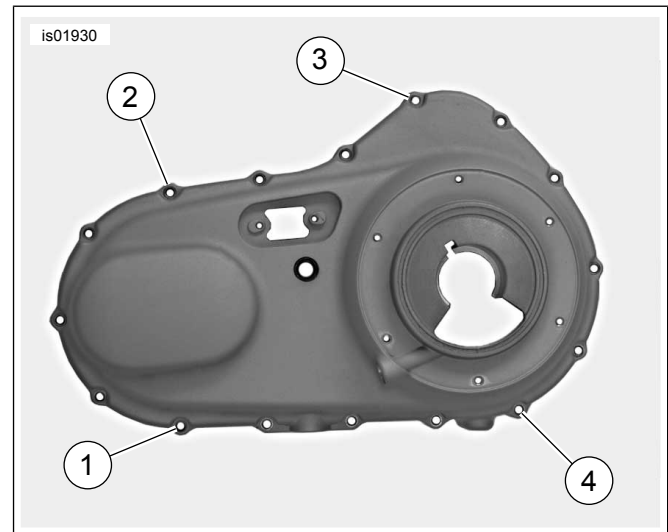
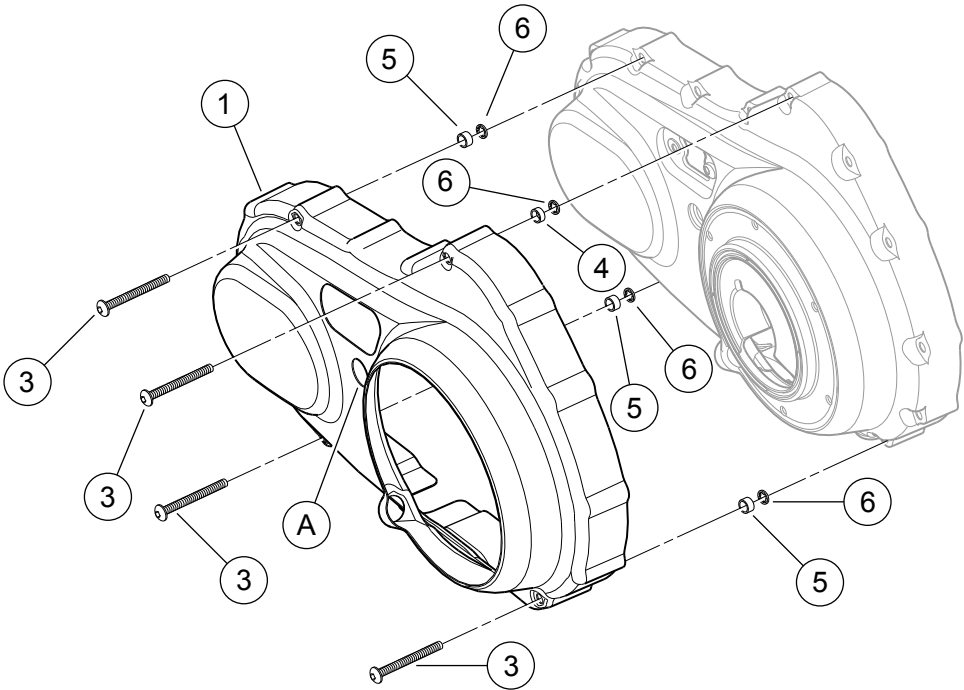

Figure 2. Primary Cover Mounting Screw Locations
Figure 3. Service Parts: Chrome Primary Trim Cover
See Figure 3 and Table 1.
4. See Figure 2 and Figure 3. Remove and discard the primary cover hex-socket head screws from the four locations shown.
9. See Figure 2. Insert a chrome screw (3), from the outside, through the hole in location 3 on the chrome trim cover. Place the **thinner** steel spacer (4) onto the threads of the screw from the inside of the trim cover.
10. Use a 5/32 inch hex key on the screw head, and grip one of the Nylon keeper washers (6) with a pliers. Install the washer onto the screw until several threads extend from the washer, capturing the screw and spacer on the trim cover.
11. Insert the remaining chrome screws, from the outside, through the holes in locations 1, 2 and 4 on the chrome trim cover. Place a **thicker** steel spacer (5) onto the threads of each screw from the inside of the trim cover.
13. Position the trim cover over the primary cover with the transmission shift lever shaft extending through the clearance hole (A) in the chrome trim cover.
15. Carefully start the remaining screws partially into their mating holes. Continue tightening the screws in turn until the trim cover is firmly in place. Tighten the screws, in the sequence shown in Figure 2, to 11.3–13.5 N·m (100–120 in-lbs).